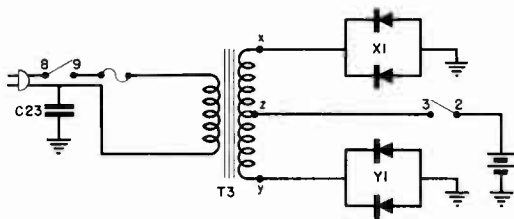
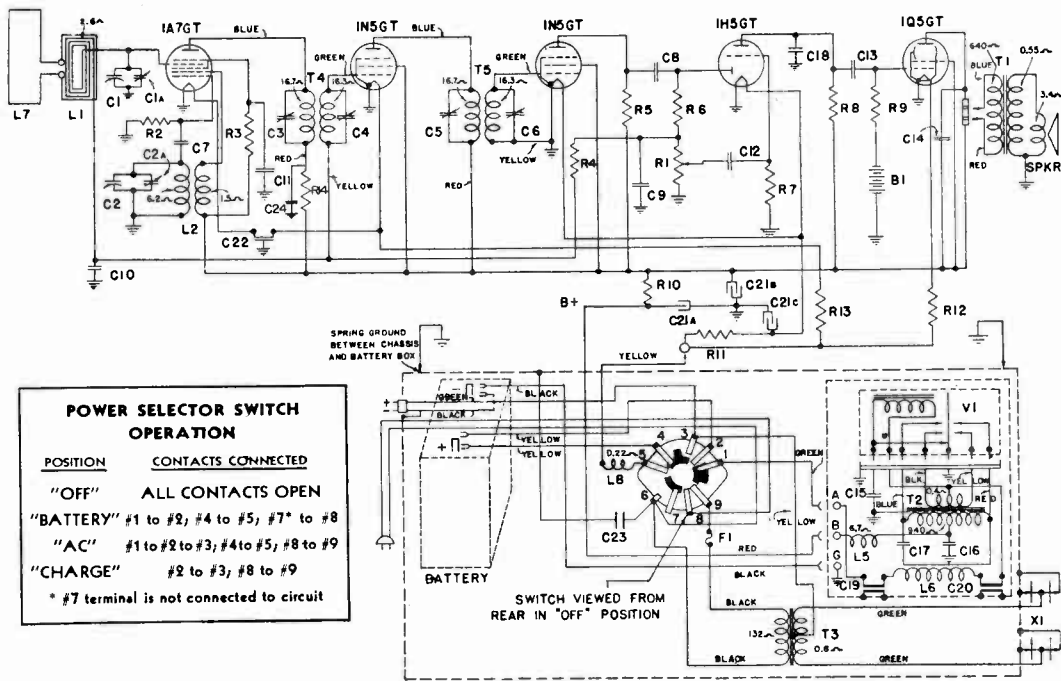

Fig. 1. Switch contacts 8-9 and 2-3 are closed in CHARGE position.
Fig. 4
*The Power Supply.* The power supply of this receiver, shown inside the dotted lines in Fig. 4, is as complicated as any you will meet in ordinary receivers. This is due to the switching system and the manner in which the circuit is drawn.
In Figs. 1, 2 and 3 we show simplified circuits of the power pack to bring out the connections of the three-position switch.
**Switch in Charge Position.** At Fig. 1 we have the connections employed when it is desired to charge the battery from the a.c. power line without operating the receiver. When the switch contacts, which are lettered to correspond to those in Fig. 4, are closed about 5½ volts a.c. is developed across the secondary of transformer T3.